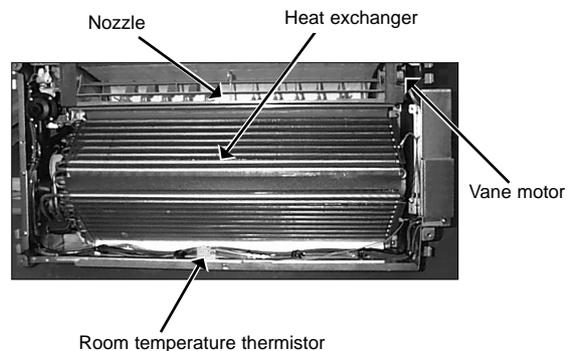

Figure 4
- **The insulation material (white)** which prevents water drop is mounted to the side of vane motor. Remove the insulation material before removing nozzle. (See figure 4)
- After service, mount the double layer insulation without fail. The hard material side should be faced toward the nozzle. (See figure 4)
- (1) Remove the panel.
- (2) Remove the room temperature thermistor.
- (3) Unhook the claws in the middle of nozzle and remove the drain pan. (5 screws) (See photo 2)
- (4) Remove the nozzle side of the heat exchanger. (2 screws)
- (5) Remove the address board cover.
- (6) Remove the electrical parts cover.
- (7) Disconnect the connector of vane motor.
- (8) Remove the insulation material (white) on the right side of nozzle.
- (9) Remove the nozzle. (6 screws)